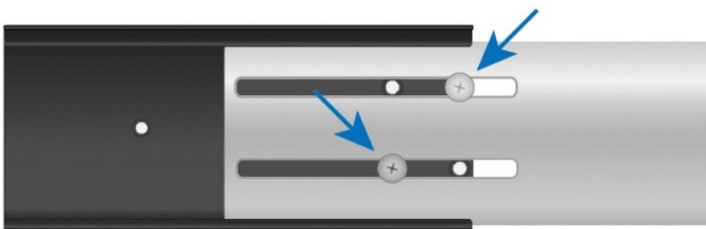

Figure 2.1j
9. After securing the rear rail extension to your rack, secure the rail extension to the rail using two of the included M5 pan head screws as shown in Figure 2.1j.